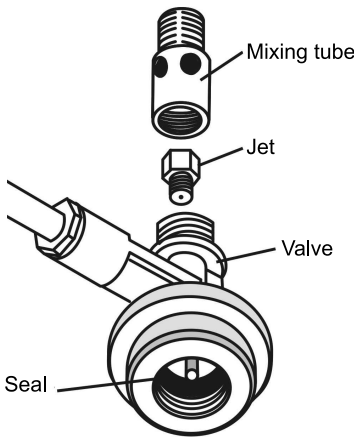

Fig. 6
- Your CADAC Safari Chef is fitted with a CADAC No. 25H jet to regulate the flow of gas (See Fig. 6). If the jet becomes blocked, it should be replaced. Do not attempt to clean the jet as this may damage the orifice.
- To replace the seal in the valve, remove the old seal by carefully lifting it out of its seat in the base of the valve. Ensure the seal location is clean and undamaged and fit the new seal (See Fig. 6).